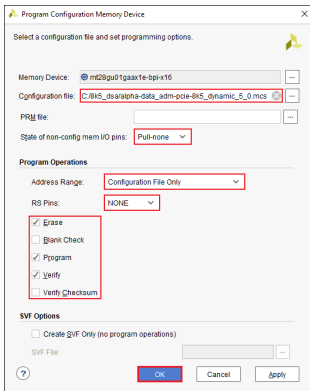

Figure 12 : The Program Configuration Memory Device window
- 11) From the **Program Configuration Memory Device** window, fill the **Configuration file** field with the path to the ADM-PCIE-8K5 DSA MCS file that was copied over from the Host Machine then make sure that the settings match those seen in **Figure 12**.